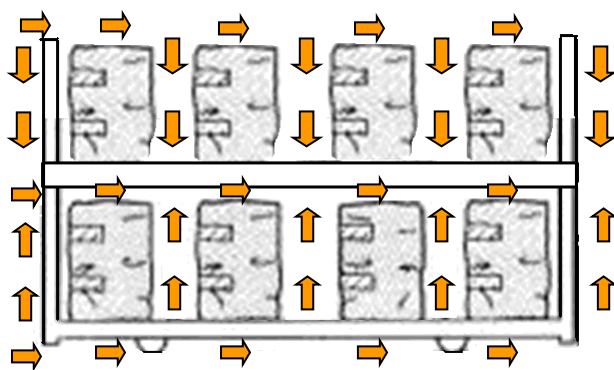

Figure 2
2. Be sure there will be enough space between each wrap for better air flow as shown in Figure 2.